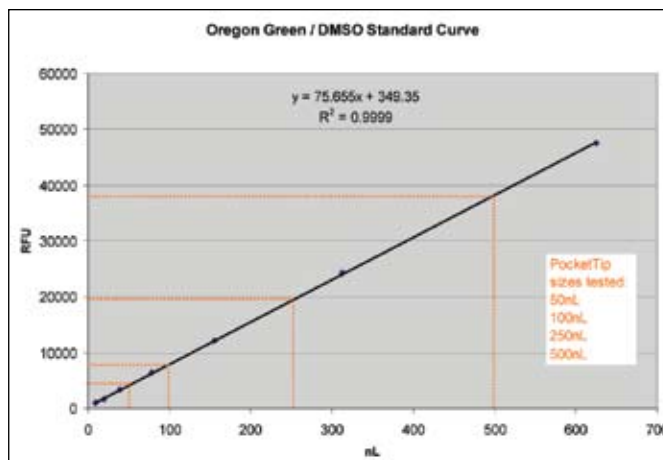

Figure 1:
9. Use the Microsoft Excel function to determine the R-square, slope and intercept of the curve values (see Figure 1)